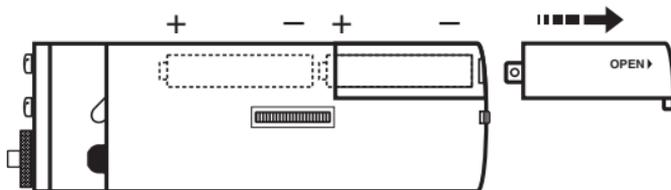

Figure 3-1. Installing Batteries.
- Remove the cover of the battery housing by placing a slight amount of thumb pressure near the viewing end of the scope body, sliding in the direction of the arrow as shown in **Figure 3-1**.